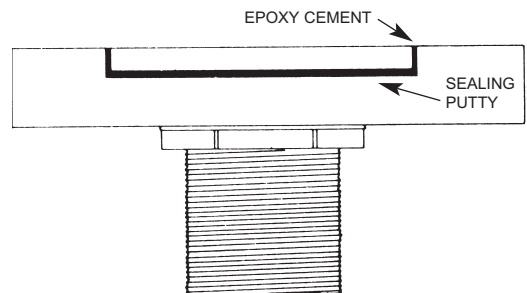

FIG. 21
4. Caulk the space between the outlet and the edge of the rabbet on the sink bottom with epoxy cement or black caulk (see Figure 21). Cove the joint with a finger to give a finished appearance. Clean up the sink bottom with warm, clean water and a clean cloth.